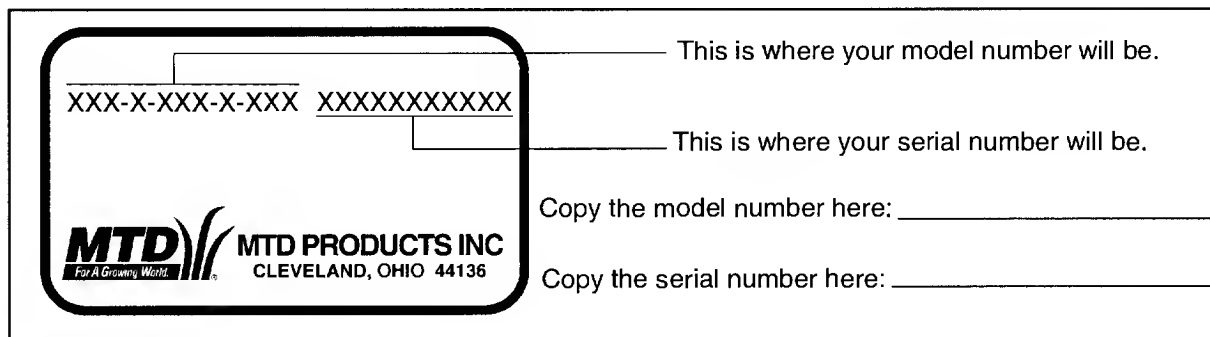

Figure 1
- Every lawn tractor has a model plate. You can locate it by pivoting the seat forward and looking under the seat at the seat pivot bracket. See Figure 1.